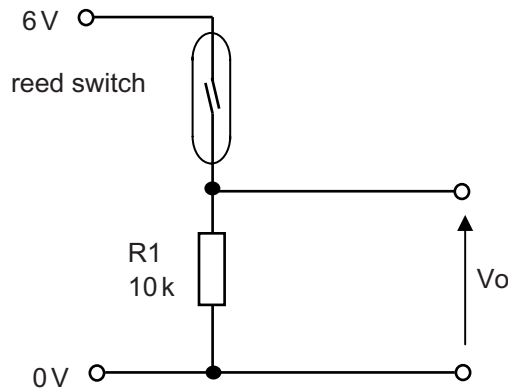

Fig. 9(a)
- 9 (a) A circuit consisting of a reed switch and resistor is shown in **Fig. 9(a)**.